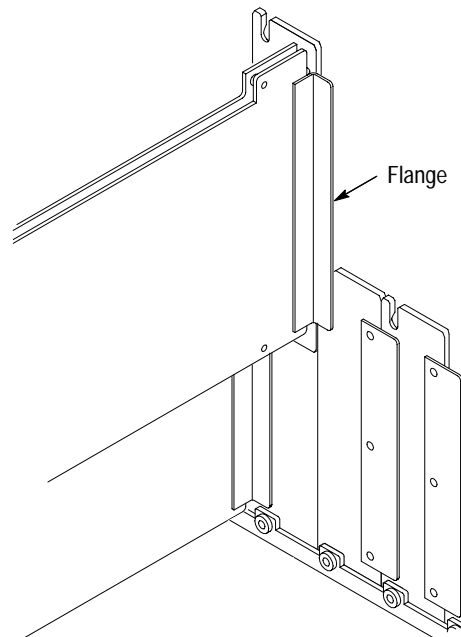
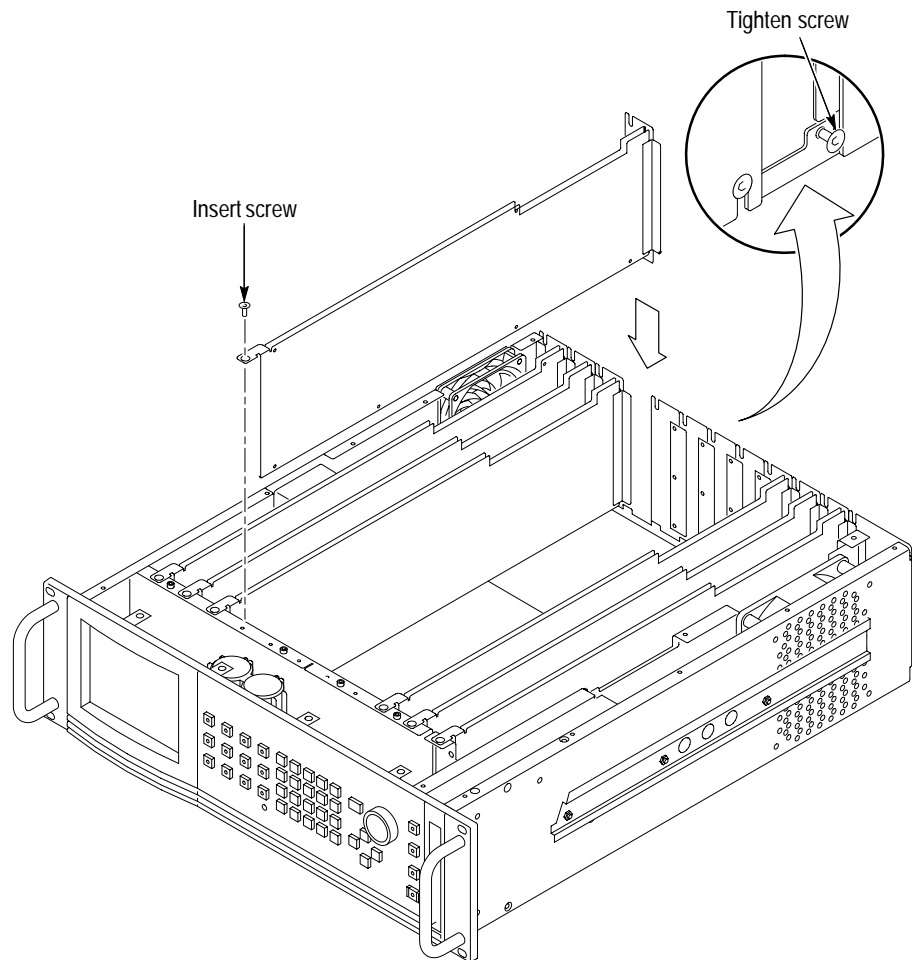

Figure D-4: Module flange
Figure D-5: Module installation
6. While ensuring correct alignment of the module flange as shown in Figure D-4, lower the module into the desired slot as shown in Figure D-5.